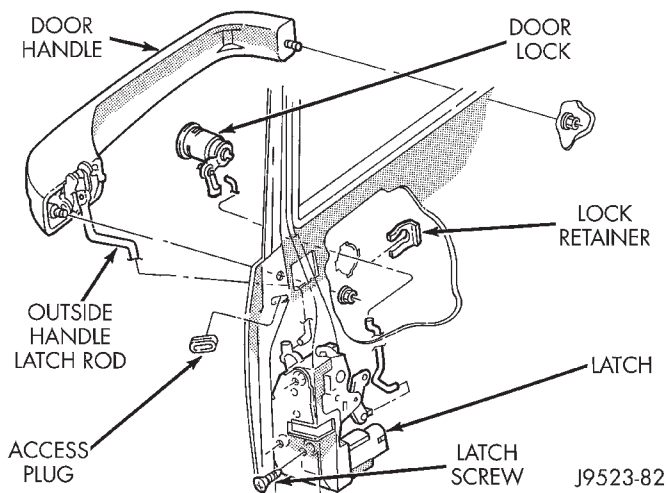

Fig. 17 Front Door Outside Handle
- (2) Remove access hole cover and door handle retaining nuts.
- (3) Disconnect handle latch rod from latch (Fig. 17).
- (1) Remove door trim panel and waterdam. If necessary, refer to removal procedure.
- (2) Disconnect door latch lock cylinder rod at door latch (Fig. 17).